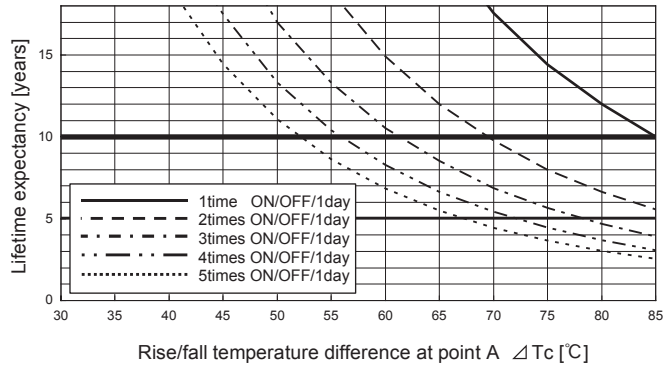

Fig.13.5 Lifetime expectancy against rise/fall temperature difference
■Product lifetime expectancy depends on case temperature difference (ΔT_c) and number of cycling in a day is shown in Fig.13.5 (It is calculated based on our accelerated process test result.)
■The warranty period is basically 10 years, however it depends on the lifetime expectancy which is shown in Fig.13.5 if it is less than 10 years.